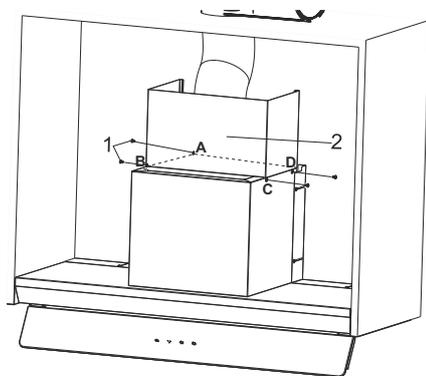

Fig. 19
5. ➔ Place the supplied sheet metal flues on the product (Fig. 19). Using the 4 connection screws through the A, B, C, D points to the appliance body (Fig. 19).